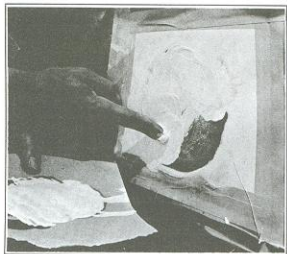

Figure 2-87. Working Gel Coat into Patch
11. Mix gel coat or filler coat with catalyst. Work Gel Coat into patch with fingers. See Figure 2-87. Filler Coat should be filled into patch with a putty knife.